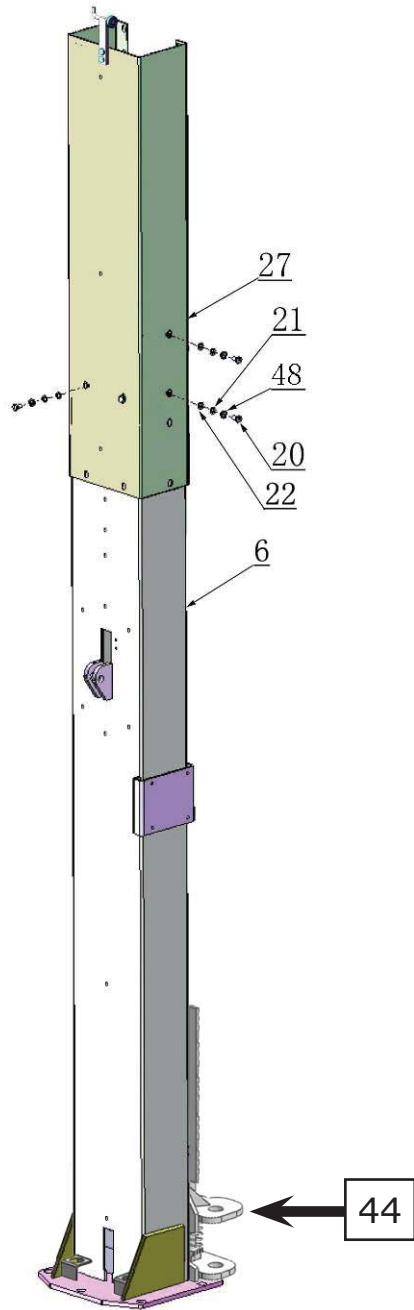

Fig. 13 - Low Setting
1. When the ceiling height is less than (151 1/2") for PV-9PX, (175 5/8") for PV-9HPX, connect the outer columns with the upper holes (**See Fig.13**).